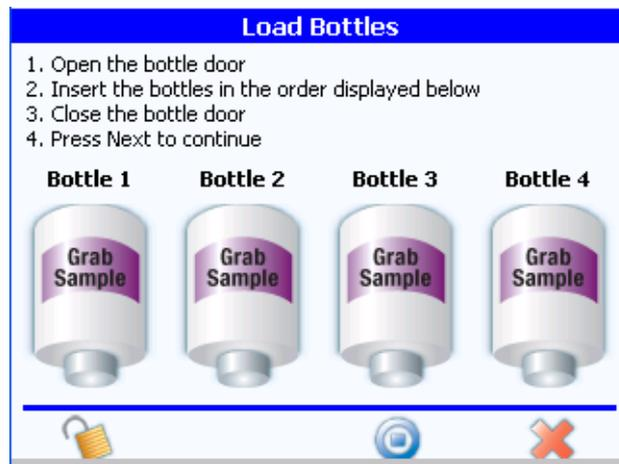

Figure 8-10 Load bottles dialog box, plumbing test
- 1) After you've selected the bottles to load, install the grab samples bottles following the instructions as shown in the load bottles dialog box (Figure 8-10) and ensuring that you place the bottles in the correct positions.
Load bottles icon opens the load bottles dialog box. See Figure 8-10, page 131.